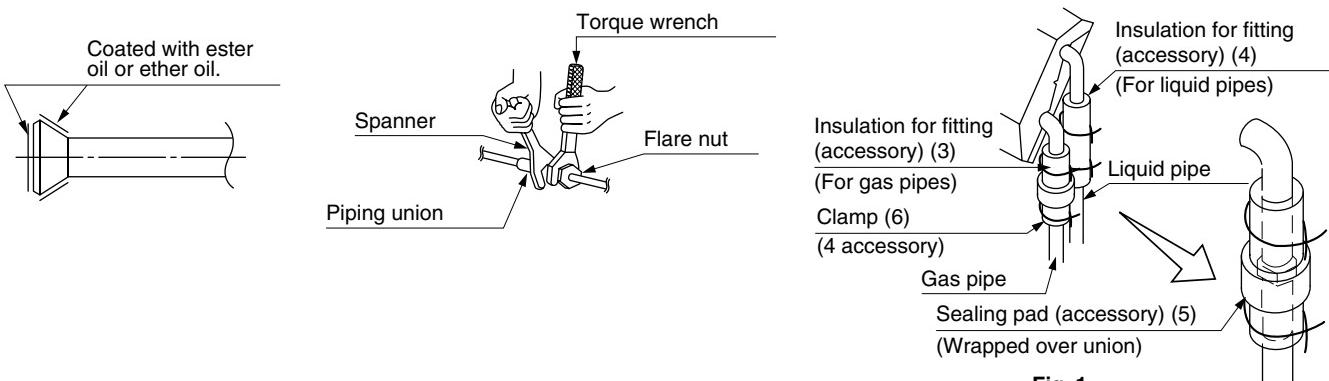

Fig. 1
- Make absolutely sure to execute heat insulation works on the pipe-connecting section after checking gas leakage by thoroughly studying the following figure and using the attached heat insulating materials for fitting (3) and (4). (Fasten both ends with the clamps (6) (attached).) (Refer to Fig. 1)
- Wrap the sealing pad (5) (attached) only around the insulation for the joints on the gas piping side.